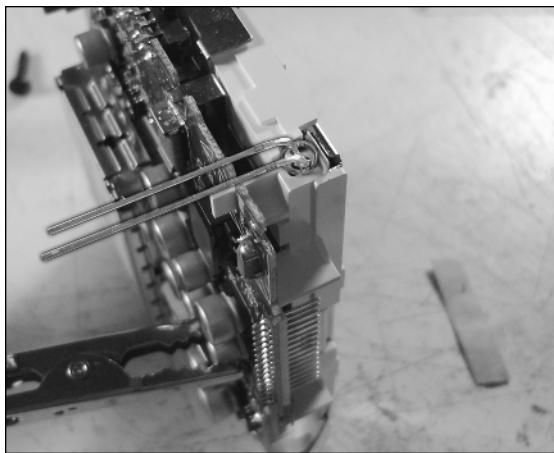

FIGURE 4-9: Placement of left LED, with bent wires.
3. Take one of your white LEDs and place it in the left side hole where the bulb was—it should fit in nicely. Once it is in, bend the wires back at a 90-degree angle, as shown in Figure 4-9. Keep the long lead toward the bottom of the board, as shown. Don't snip the leads off the LED yet, as you need to know which is negative and which is positive.